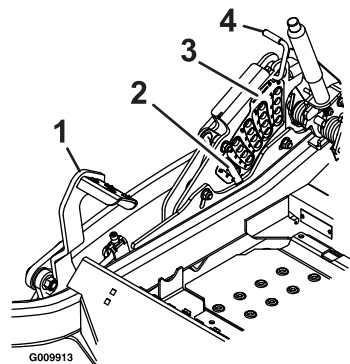

Figure 17
4. Raise and lock the deck to the 5 1/2 inch (14 cm) transport position (Figure 17).